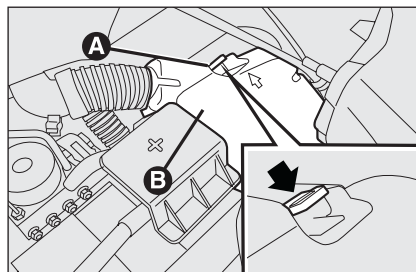

fig. 48
- ☐ use the fin **A-fig. 48** to remove the fuse box protection lid **B**;